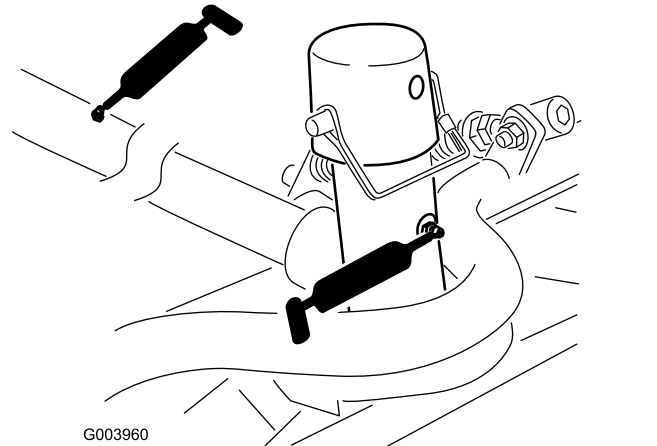

Figure 38
- Lift-arm pivots (1 each) (Figure 38)
- Cutting-unit carrier-frame and pivot (2 each) (Figure 38)